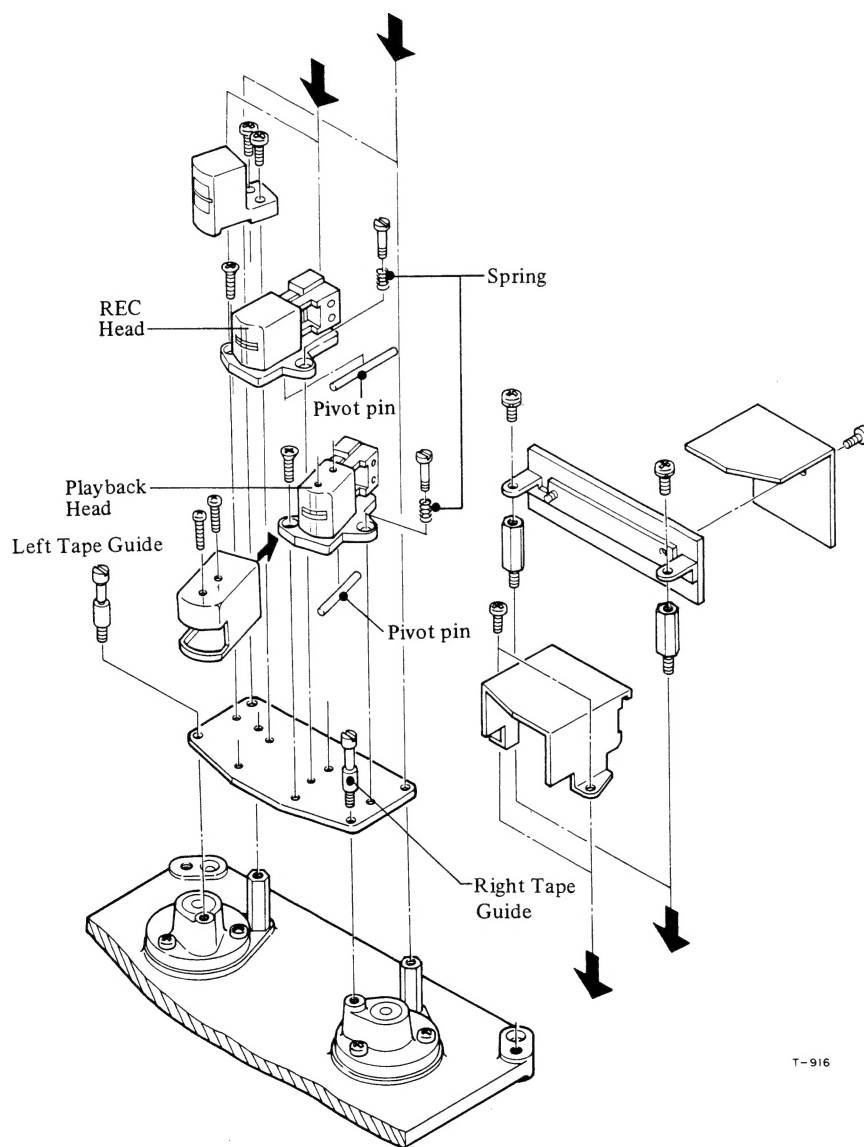

Fig. 4-5 Heads Removal
1. Remove Head ass'y. See Fig. 4-5.